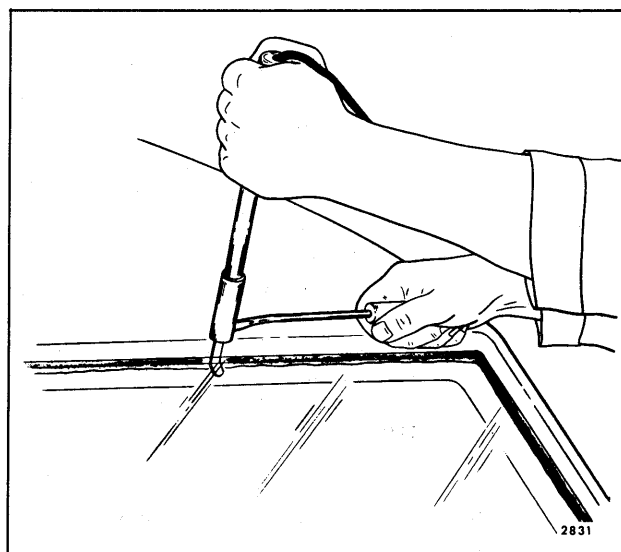
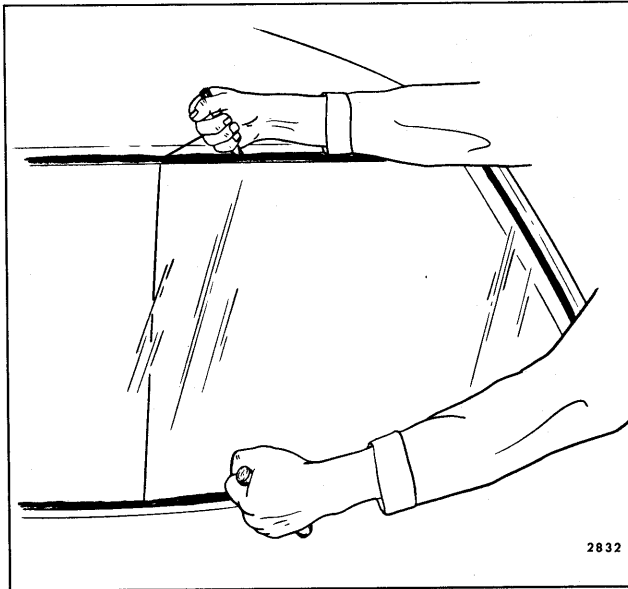

Fig. 4-2—Adhesive Caulked Glass Removal - Electric Hot-Knife Method
Fig. 4-3—Adhesive Caulked Glass Removal - One-Man Wire Method
**NOTE:** Optional methods of glass removal which require only one man are: (1) the electric hot-knife (Fig. 4-2) and (2) pulling the cutting wire through upper and lower edges of glass simultaneously (Fig. 4-3). For the latter optional method, insert one end of wire through caulking material at inner upper edge of glass and the other end of wire through caulking material at inner lower edge. Attach handles to both wire ends outside of body.